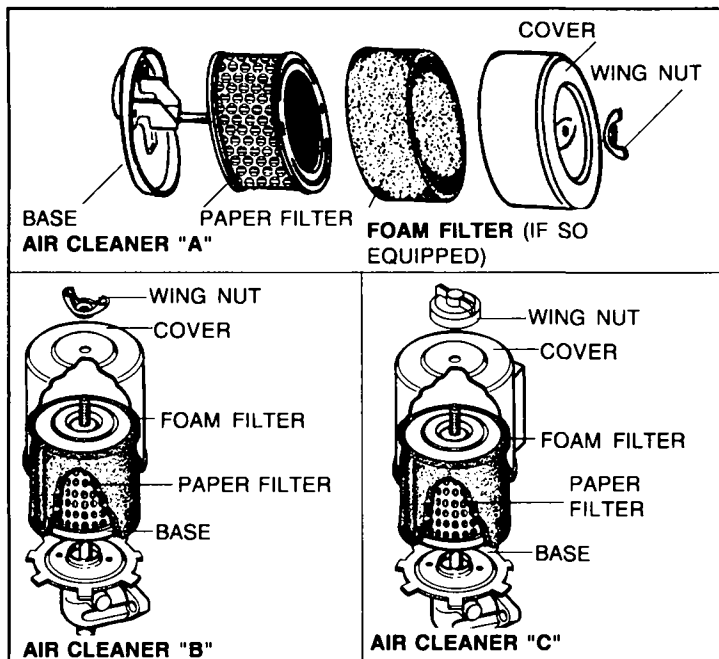

Figure 7
- A. TO SERVICE FILTER(S) (see Figure 7):
AIR CLEANER "A" (see Figure 7):
AIR CLEANER "B" & "C" (see Figure 7):